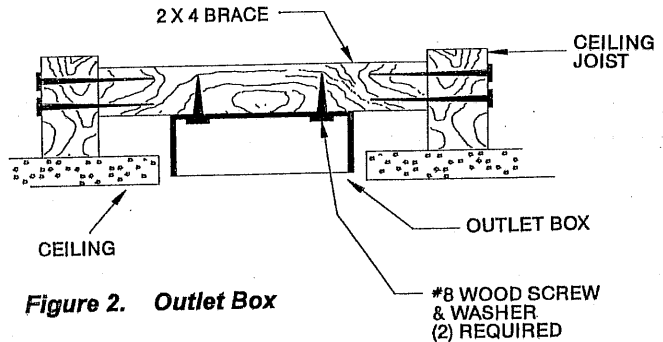

Figure 2. Outlet Box
- A.** Secure metallic outlet box 4" X 1-1/2" or 4" x 1/2" deep to 2 X 4 cross brace between two ceiling joists as shown in Figure 2. The outlet box must be recessed into the ceiling by 1/16" minimum. Secure the outlet box to the cross brace by drilling (2) pilot holes no larger than the minor diameter of the wood screws (5/64") and use two #8 x 1-1/2" wood screws and washers. Use the innermost holes for securing the box. Orient the box so the outermost holes will be used in step 4B.